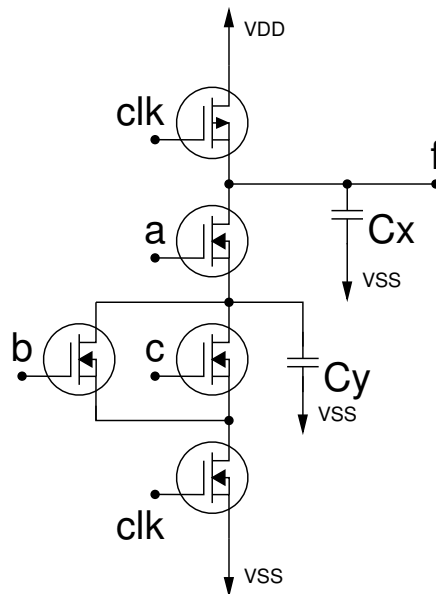

Figure 1: Example circuit.
1. **(20 pts.)** Consider the circuit in Figure 1. Hint: The top transistor is a PMOSFET and the rest are NMOSFETs.